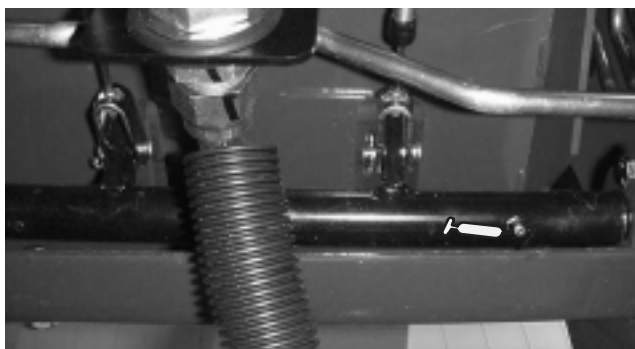

Figure 20
- Brake shaft pivot bearings (5) (Fig. 20)